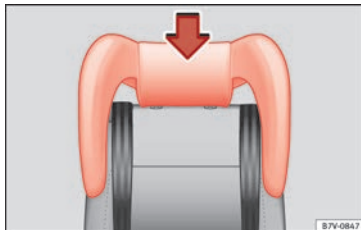

Fig. 93 Integrated child seats. install its head support.
- Enter the child seat head support in the corresponding backrest until it fits correctly into place **»» Fig. 93**.